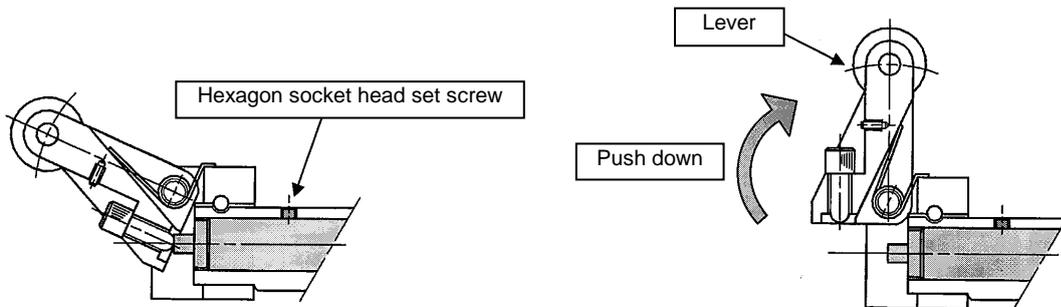

Fig. 11
- ① Loosen the hexagon socket head set screw (M3) at the piston rod by approximately one turn, and push down the lever. (See Fig. 11)